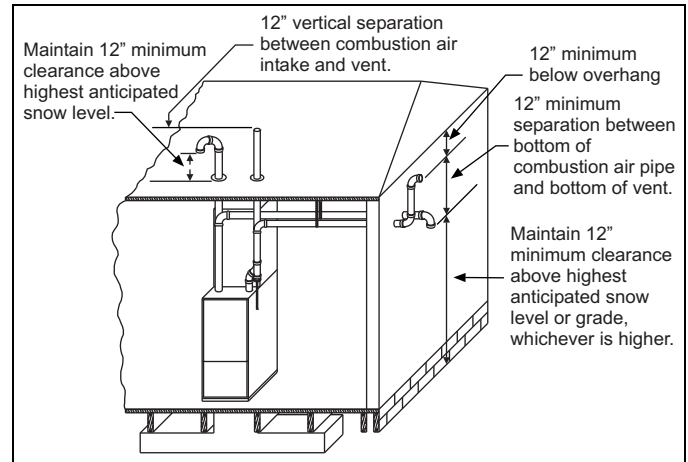

Figure 25: Termination configuration - two pipe
- **Outdoor combustion air:** This is a direct vent configuration where the combustion air is supplied through a PVC, CPVC, or ABS pipe that is connected to the coupling attached to the furnace and is terminated in the same atmospheric zone as the vent. This type of installation is approved on all models. See Figures 25 and 26.